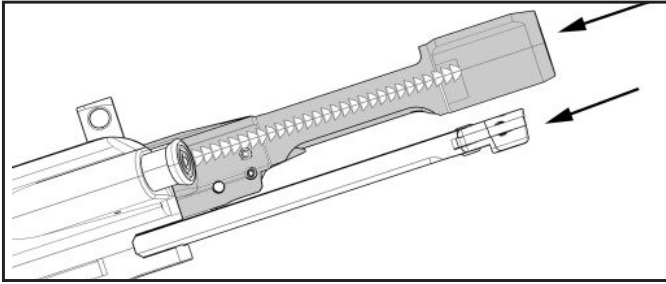

Fig. 65 – Installing the bolt assembly into the upper receiver
- g. With the upper receiver and charging handle upside down, install the bolt assembly onto the bottom of the charging handle ensuring that the bolt carrier's anvil and the top of the cam pin are centered in the bottom cavity of the charging handle (Fig. 65).